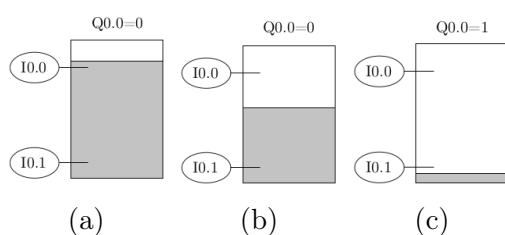

Figure 1
**Exercise 1.** Consider the reservoir system shown on Figure 1. We have water level indicators marked: I0.0 and I0.1. The sensors indicate 1 when they are fully immersed in the water. We want to maintain the level in the reservoir in such a way that the tank is refilled up to I0.0 as soon as the level get below I0.1 (Figure 1c). The level is maintained using a water pump controlled by the variable Q0.0. Establish the Ladder diagram of the problem and show the correct operation sequence.